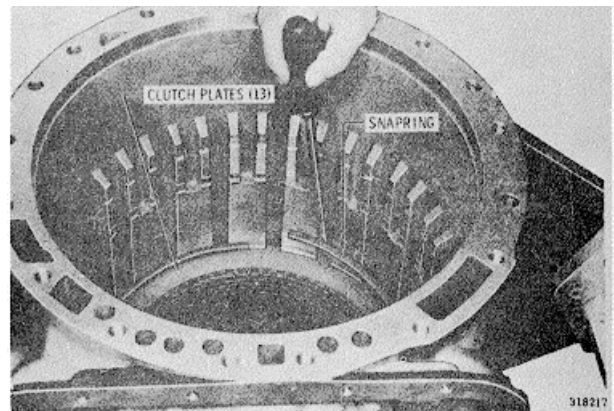

Fig. 7-3. Installing second clutch, external-tanged plate
(1) Install thirteen second clutch plates, beginning with an external-tanged plate. Alternately install seven external tanged plates and six internal-splined plates (Fig. 7-3).